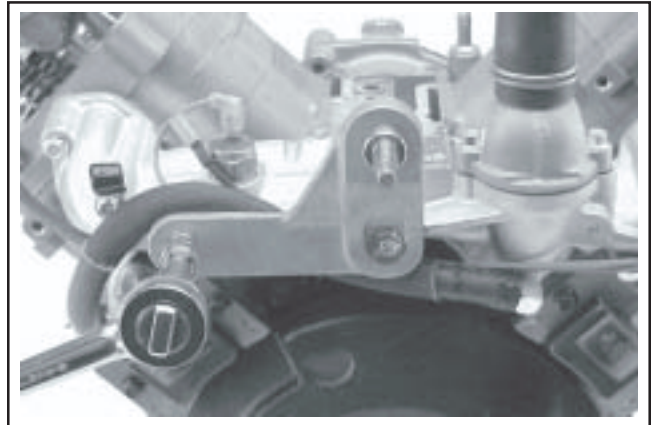

Figure 9-35. Removing Upper Fan Mounting Bracket Screws.
2. Remove the two hex. flange screws and take off the mounting bracket, with the fan shaft attached. See Figure 9-35.